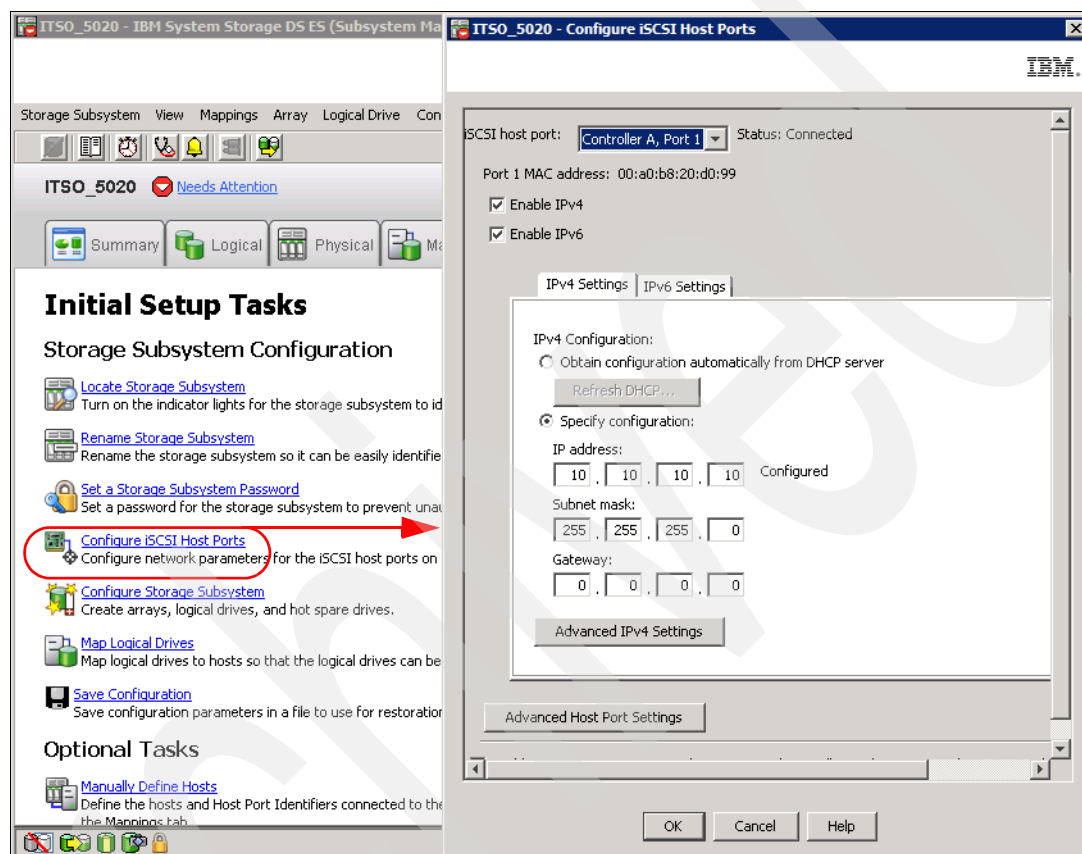

Figure 3-17 Configure iSCSI Host Ports
1. Start the iSCSI attachment configuration defining the iSCSI host ports. Do this for each of the ports of both controllers that you are planning to use for connecting iSCSI hosts. From the Setup tab of the Subsystem management window, select the option **Configure iSCSI Host Ports**, as shown in Figure 3-17.
- Check the iSCSI names of the adapters to ensure that they are recognized, as follows. After both controller IP addresses are configured as targets in the iSCSI HBA ports, and because we already defined the iSCSI host ports as in Figure 3-17, “Configure iSCSI Host Ports” on page 81, then the iSCSI names of the adapters must be recognized by the DS Storage Subsystem.